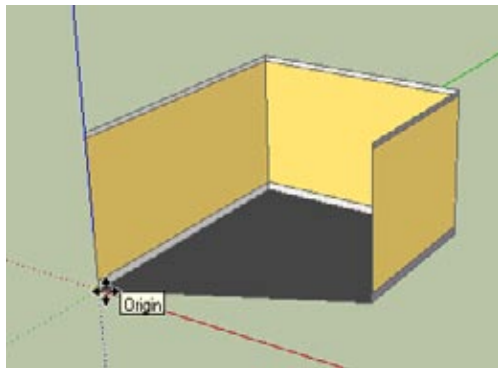

Figure 14-23
1. Import Google's Angled Wall Room dynamic component (search for *angled room is:dynamic*). Place the reference point at the origin of the SketchUp model (Figure 14-23).